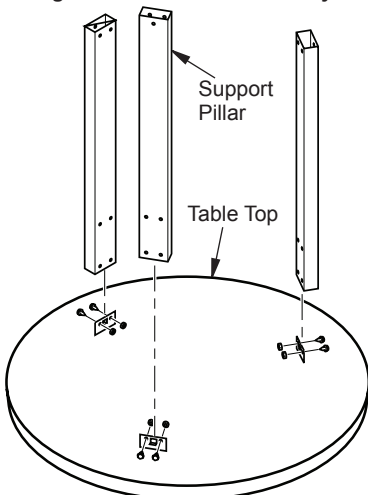

Figure 9 - Table Top Assembly
- Lay table top upside down on a blanket or piece of cardboard to prevent scratching. Making sure holes in support pillars are oriented as shown in Figure 9, install 3 remaining table support pillars as shown. Attach pillars to table top with 2 screws (D) and 2 nuts (E) each.